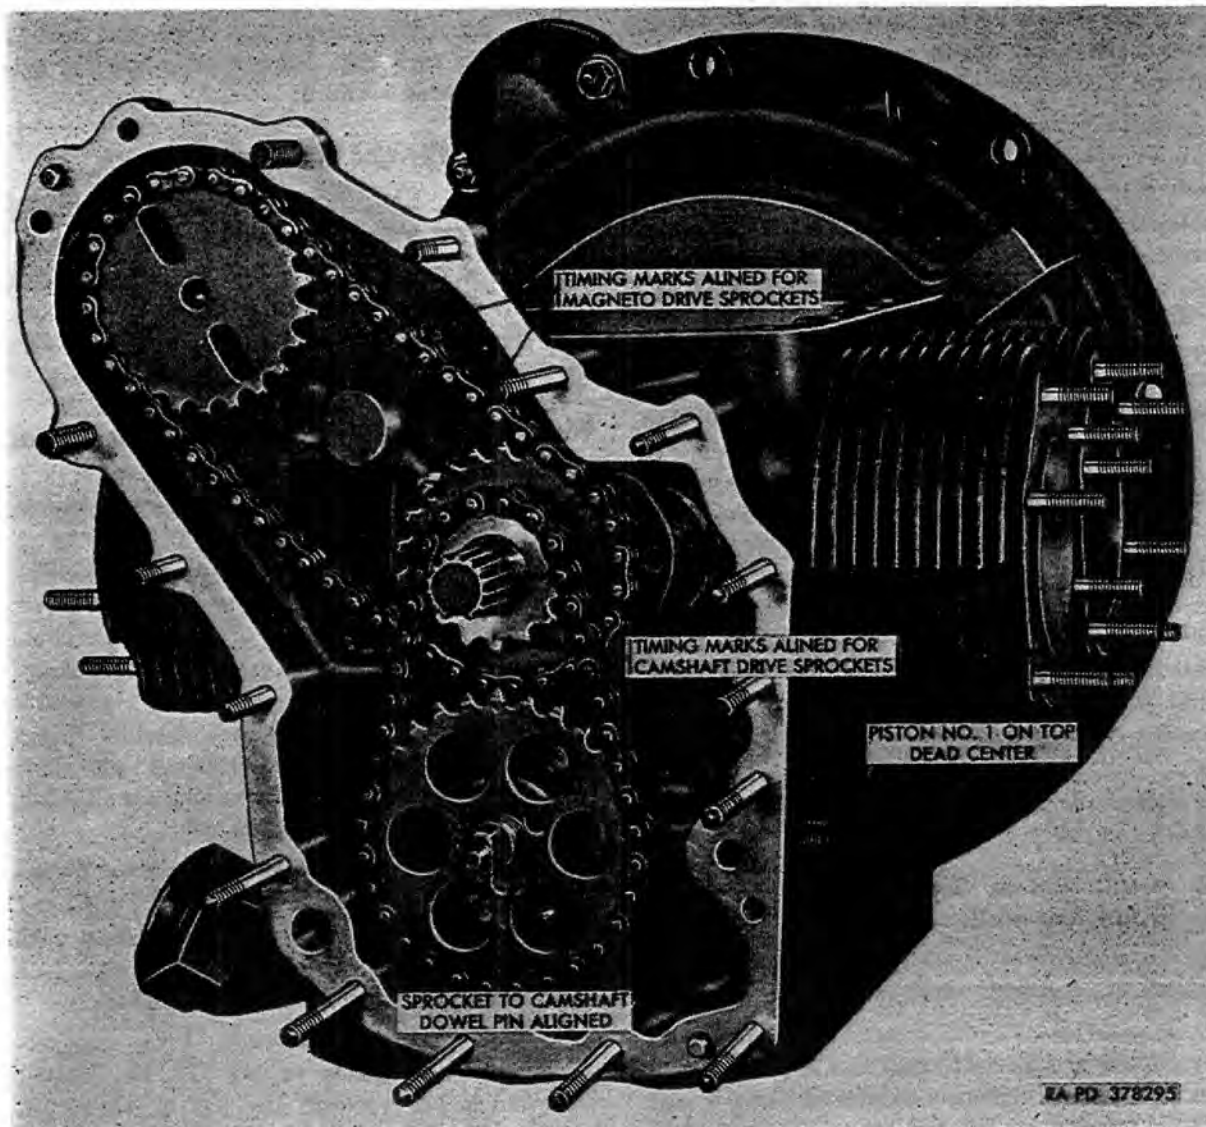

Figure 68. Accessory drive sprocket installation.
a. Assemble Sprockets and Chains. Assemble magneto driven sprocket (N) and magneto drive sprocket (D) to crankshaft-to-magneto roller chain (C), so that timing marks on sprockets are alined on centerline between sprockets (fig. 68). Assemble camshaft drive sprocket (G) and camshaft driven sprocket (M) to crankshaft-to-camshaft roller chain (F), so that timing marks on sprockets are alined on centerline between sprockets (fig. 68).
b. Position Crankshaft and Camshaft for Engine Timing (fig. 68). Rotate crankshaft until number 1 piston is on top dead center. Rotate camshaft until sprocket-to-camshaft dowel pin is in alinement on centerline between crankshaft and camshaft.
c. Install Chains and Sprockets. Place sprocket-to-cylinder block thrust washer (B) on cylinder block and install woodruff key (A) in crankshaft. Install crankshaft-to-magneto chain and sprockets (fig. 23). Place thrust plate-to-sprocket spacer (P) on camshaft, and crankshaft sprocket spacer (E) on crankshaft. Install crankshaft-to-camshaft chain and sprockets (fig. 22). Be sure piston number 1 is on top dead center and timing marks are in correct alinement (fig. 68). Install key washer (L) and $\frac{5}{8}$ jamnut (K) on camshaft and tighten to 40 to 60 foot-pounds torque (par. 145). Lock jamnut (K) in position by bending washer (L) over one flat of nut (K). Install key washer (H) and $\frac{7}{8}$ special nut (J) on crankshaft and tighten to 100 to 125 foot-pounds torque (par. 145). Lock special nut (J) in position by bending washer (H) over flat provided on special nut (J).